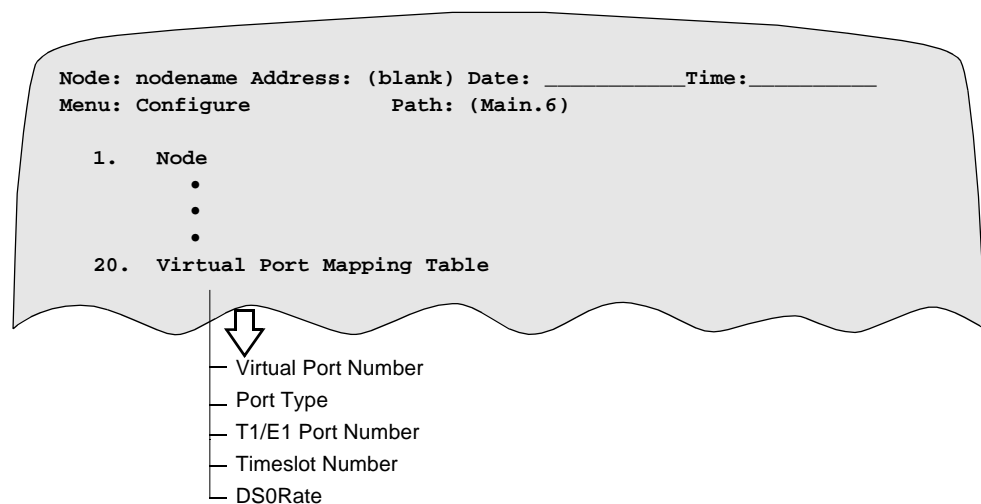

Figure 5-4. Virtual Port Mapping Table
- What You See** Figure 5-4 shows the Virtual Port Mapping Table.